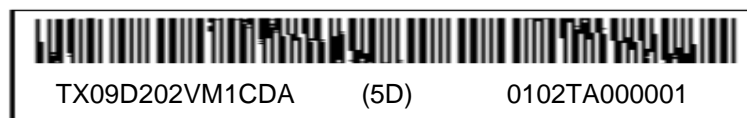

Fig. 13.2
4) The location of the lot mark is on the PCB shown in Fig. 13.2.